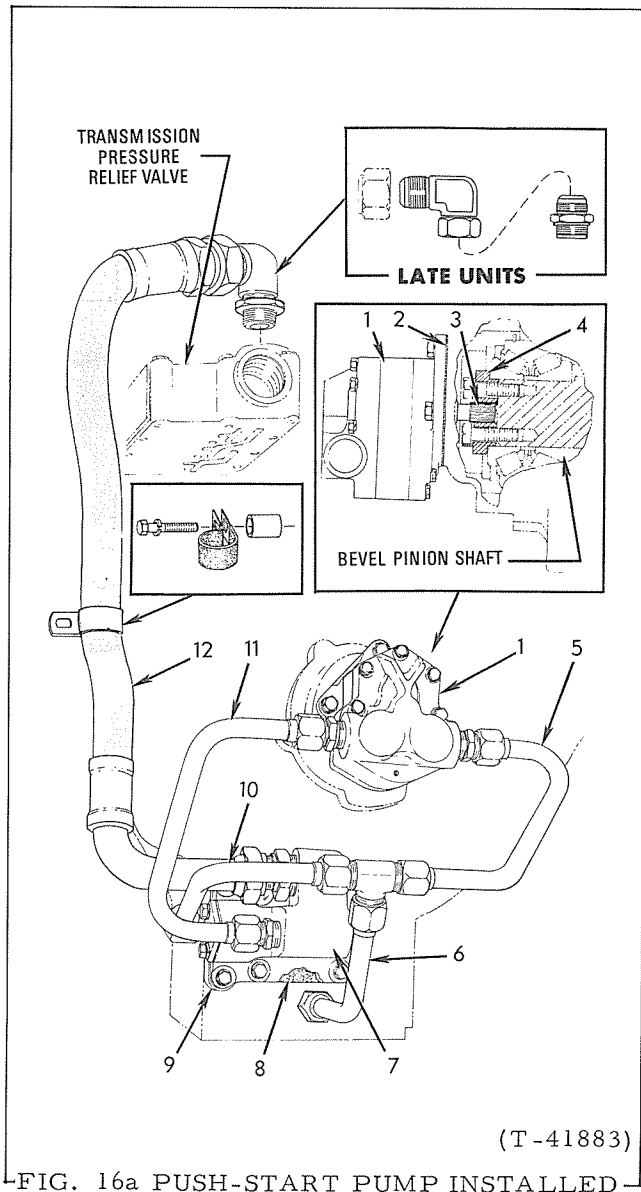

FIG. 16a PUSH-START PUMP INSTALLED
- a. Pump is attached to bevel pinion shaft front cover, Fig. 16a, Remove transmission bottom guard to gain access to pump. Disconnect oil lines from pump; remove pump from transmission.